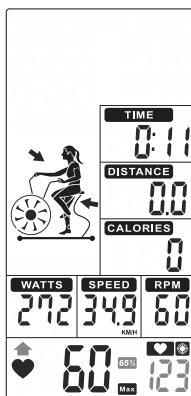

FIGURE 47
4. When Heart Rate goes below to 65%, and **65%** value will flash. And buzzer sounds in every 10s until user HR achieve above 65%(Figure 47).